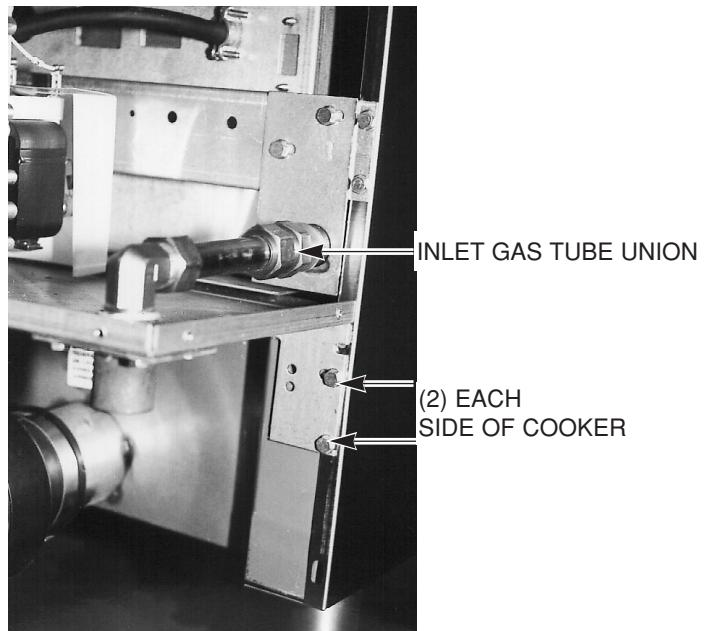

Fig. 75
7. With a  $\frac{5}{16}$ " socket and a wrench, disconnect the electric supply cord holding strap(s). (Fig. 75)